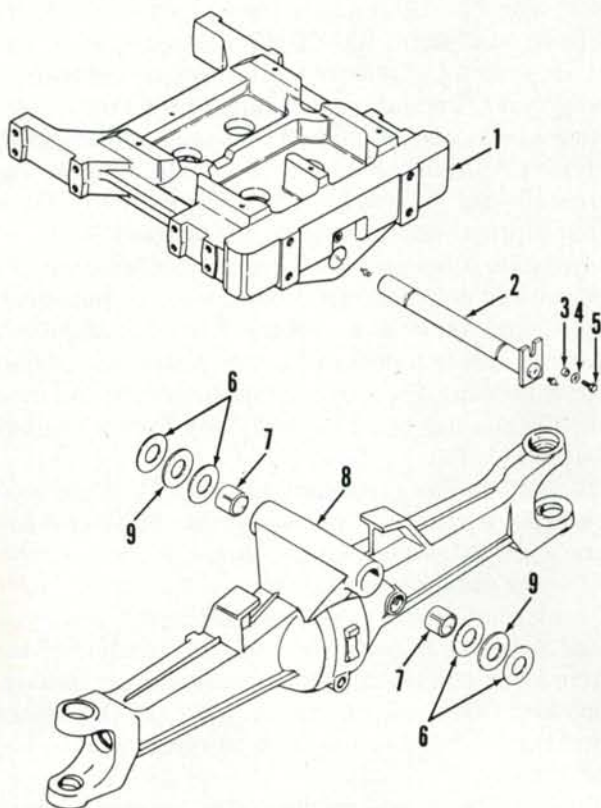

Fig. 5—Front support and axle housing used on models equipped with front drive axle.
7. **REMOVE AND REINSTALL.** To remove the front drive axle assembly, place transmission in PARK and securely block rear wheels. Unbolt and remove drive shaft shield and the front drive shaft assembly. Disconnect steering cylinder lines and cap or plug all openings. Loosen front wheel to hub nuts on both front wheels. Install a side frame jack CAS-10500-1 or front split stand CAS-10749 on each side of tractor. Raise front of tractor until front wheels are off the ground. Remove wheel nuts and using a hoist, remove front wheels. Place a floor jack or special axle carrier CAS-10500-4 under front axle. Remove cap screw (5—Fig. 5), washer (4) and spacer (3). Then, remove pivot shaft (2) and thrust washers (6 and 9). Lower axle (floor jack) or raise tractor (axle carrier) and roll assembly forward from tractor. Inspect bushings (7) and renew as necessary. When installing new bushings, apply a coat of Loctite Anti-Seize to bore in axle housing. Freeze bushings in dry ice and carefully install flush to 1/16 inch (1.6 mm) below the face of axle housing.
To remove front support (1—Fig. 5), disconnect headlight wires, then remove grille, hood and side panels. Drain cooling system, then disconnect upper and lower radiator hoses. Disconnect air intake tube, oil cooler lines and air conditioner lines at quick couplers. Attach a hoist to the radiator, condenser and oil cooler assembly support brackets, remove two rear bolts and three front bolts, then lift off the assembly. Attach a hoist to the front support, then unbolt and remove.